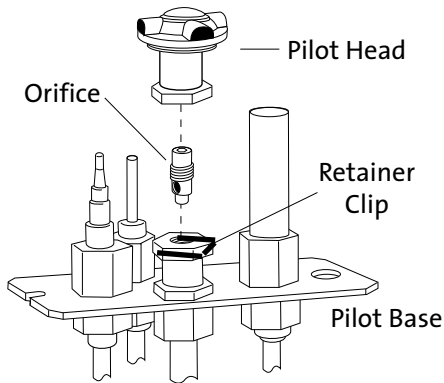

Figure 20. Pilot orifice removal and replacement.
9. Change the Pilot Orifice: From within the firebox, remove the Pilot Head by pulling it straight up from the pilot base. See fig. 20.
10. Tighten orifice into the base of the pilot assembly. To prevent bypass leaks, be sure the orifice is secured tightly and flush with the base. Replace pilot head by pushing it down onto the pilot base. See fig. 20.